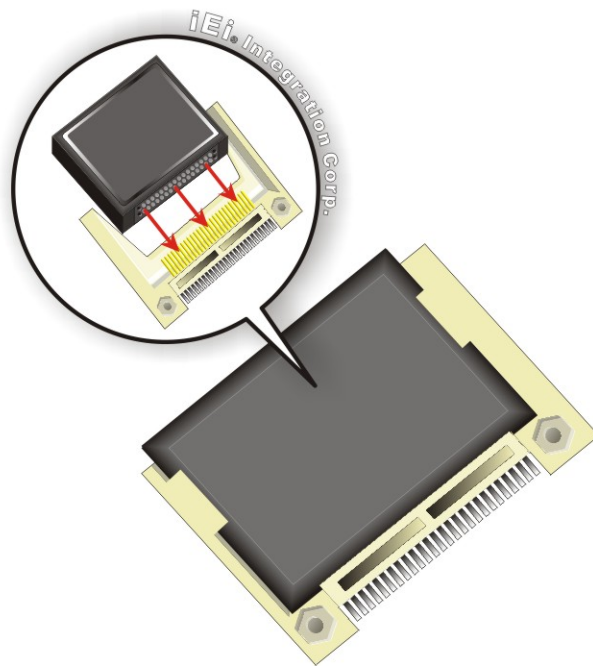

Figure 4-12: CompactFlash® Card Installation
- Step 3: Insert the CF card.** Push until the CompactFlash® card is firmly seated in the slot. See **Figure 4-12**.